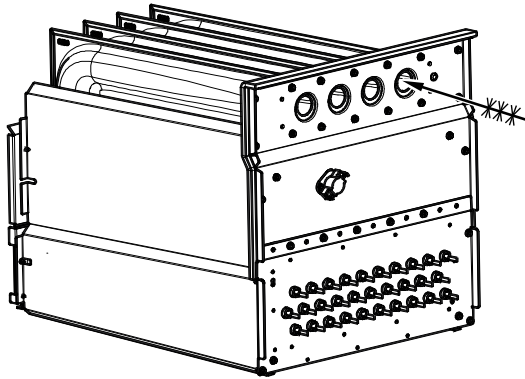

Fig. 70 – Cleaning Heat Exchanger Cell
7. Clean heat exchanger openings with a vacuum and a soft brush, see Fig. 70.